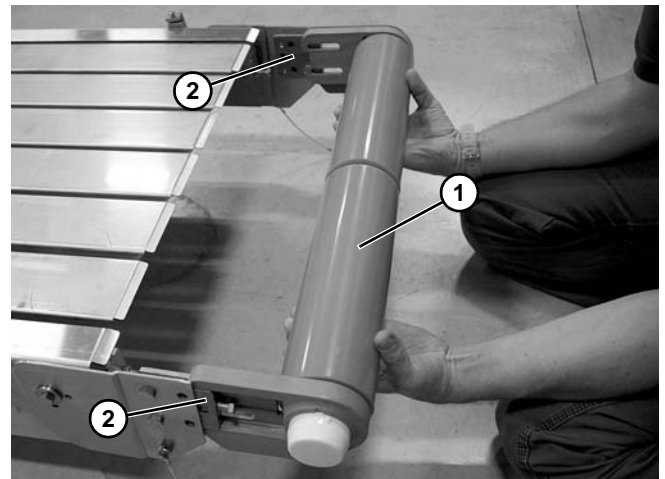

Figure 82
4. Slide the idler spindle assembly (Figure 82, item 1) off the pivot tail blocks (Figure 82, item 2).